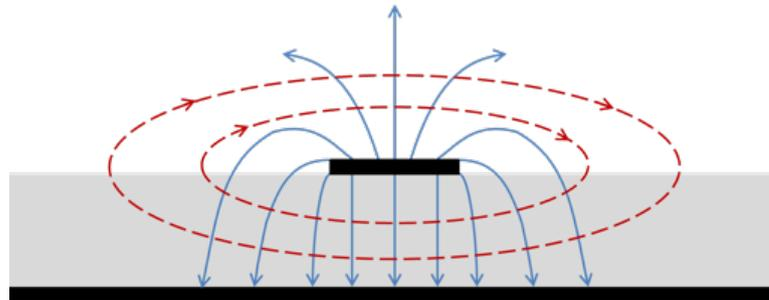
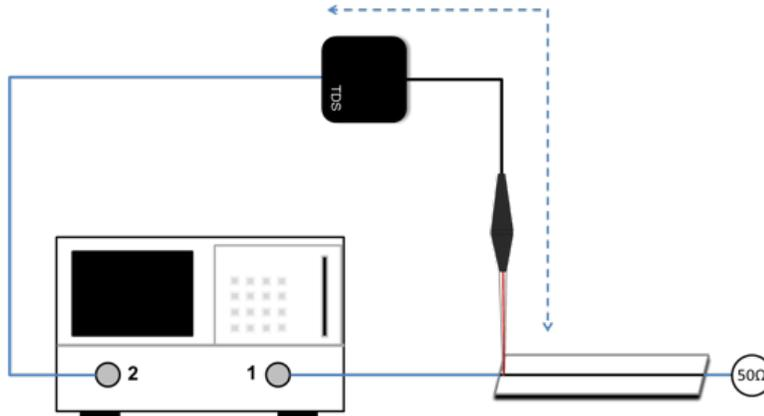

Figure 7.2: Field distribution of quasi TEM mode for a microstrip line. The E-field lines are in blue and the H-field lines are in red.
Figure 7.3: Calibration setup for compensating the additional delay introduced by *TDS* (shown in blue dashed line).
surement, both E- and H-field probes can be used. Please, keep in mind the field distribution around the stripline shown on Fig. 7.2 in order to obtain the correct coupling to the probe.
the output of the *TDS* Remote Unit has to be modified by adding some offset. This is done to compensate for the electrical delay introduced by *TDS* (shown as a blue dashed line on Fig. 7.3).
**STEP 2:** Connect the *TDS* system according to Fig. 7.3. Here the probe is kept on top of the stripline, close to the beginning of the stripline. Consult Fig. 7.2 in order to get correct coupling between the probe and the stripline.